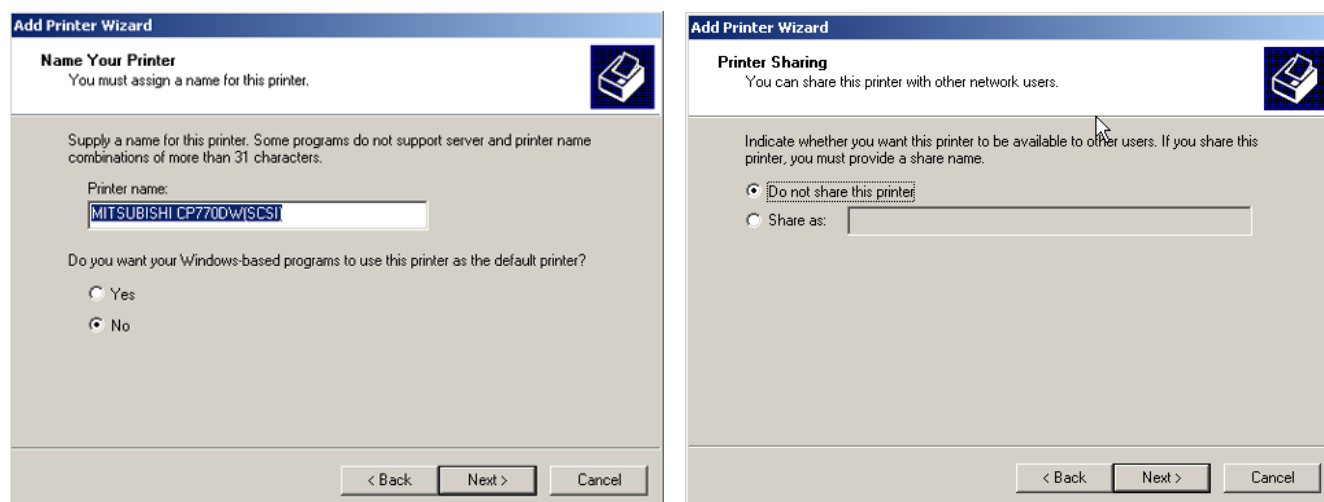

Figure 3-27 Assign name and select Printer Sharing - no
14.) Assign a name, decide if the printer should be used as default printer and confirm with NEXT. see: Figure 3-27.
15.) Select 'Do not share this printer' and confirm the "Printer Sharing" window (Figure 3-27) by clicking NEXT.